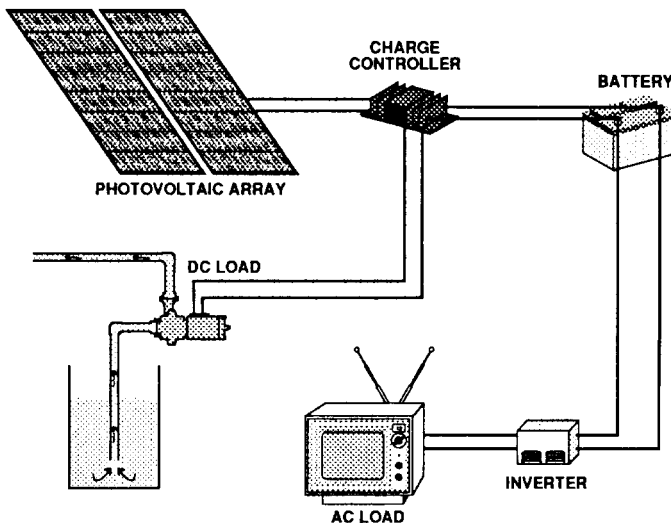

FIGURE 2-10
2.2.7 Mixed AC/DC System. A good compromise is to supply every possible need with a DC device, and use AC only for those loads for which there is no alternative (Figure 2-10).